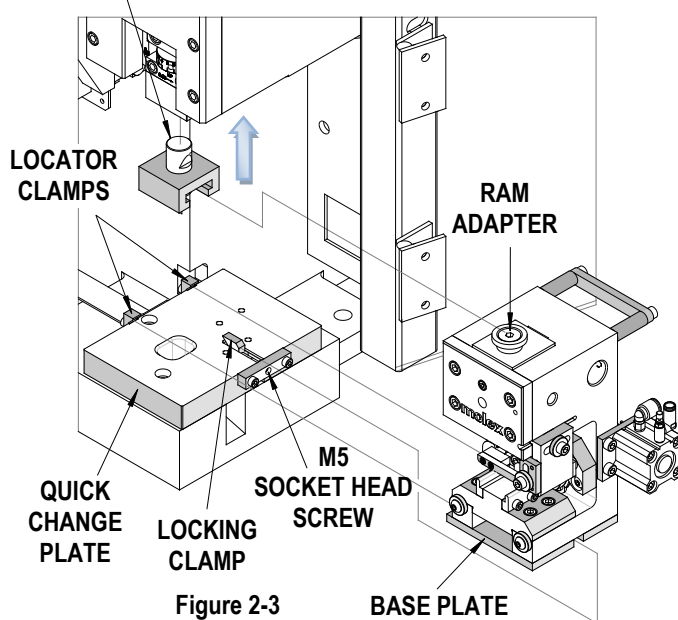

Figure 2-3
7. Slide the crimp module onto the quick-change mounting plate until the two notches on the left side engage against the stops, and at the same time, guide the ram adapter into the press yoke. See Figure 2-3.